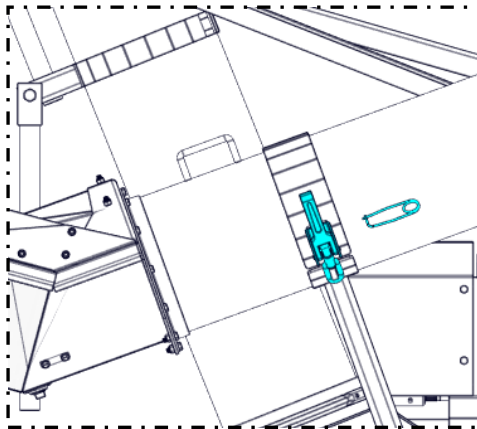

Figure 4.11
- A) Remove the safety pin and open the over-center latch on the transfer auger support that holds the transfer auger to the mill trailer (Figure 4.11).